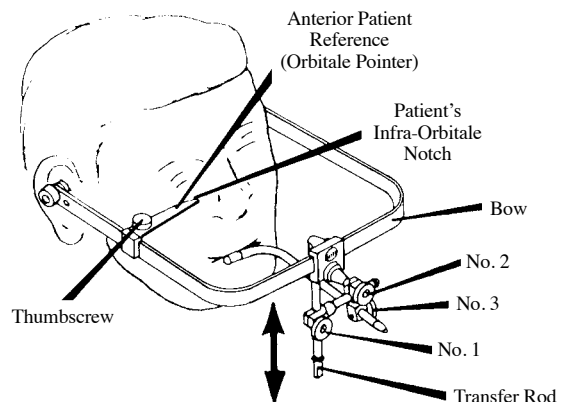

Figure 10
7. Slightly loosen the spring loaded Thumbscrew that secures the Anterior Patient Reference, Figure 10. Carefully rotate this Reference (Orbitale Pointer) to a proximity with the patient's infra-orbitale notch.